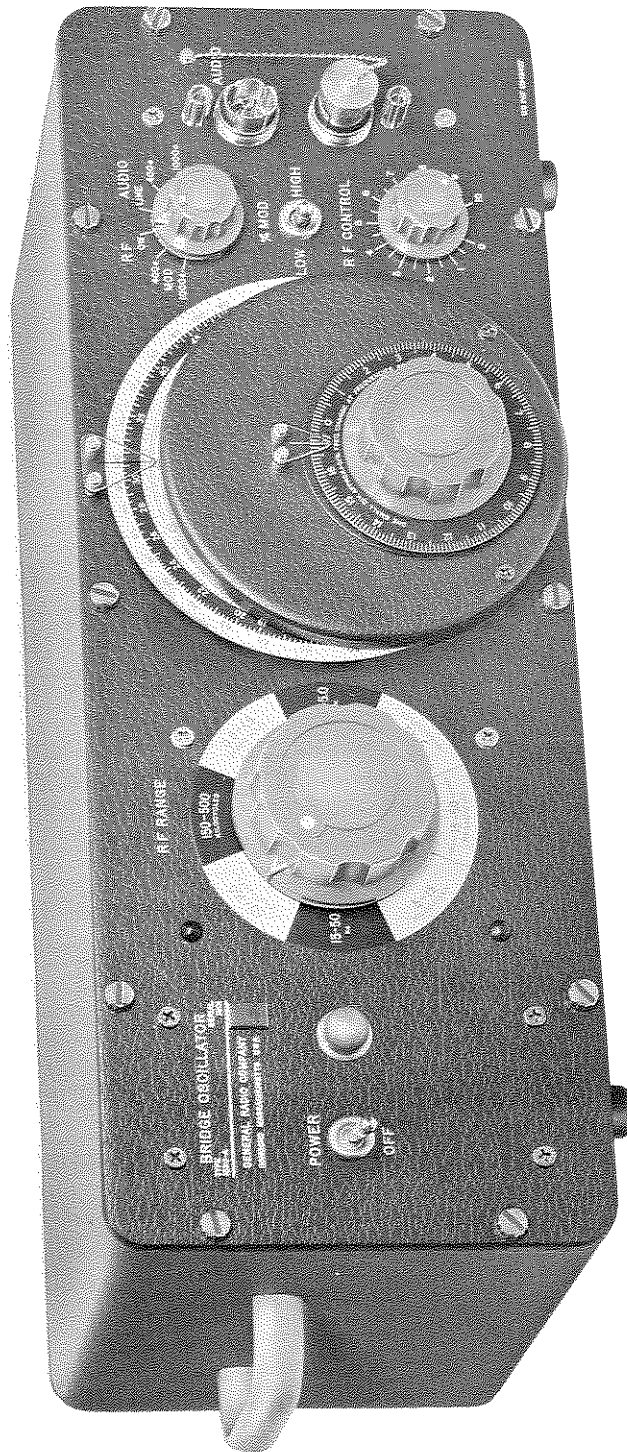

Figure 1. Type 1330-A Bridge Oscillator.
1.1 PURPOSE. The Type 1330-A Bridge Oscillator (Figure 1) is a stable, variable-frequency power source for bridge and other measurements at audio and radio frequencies. It supplies three fixed audio frequencies (power-line frequency, 400 and 1000 cps) and a continuous range of radio frequencies from 5 kc to 50 Mc, with a power output high enough for most laboratory measurements.